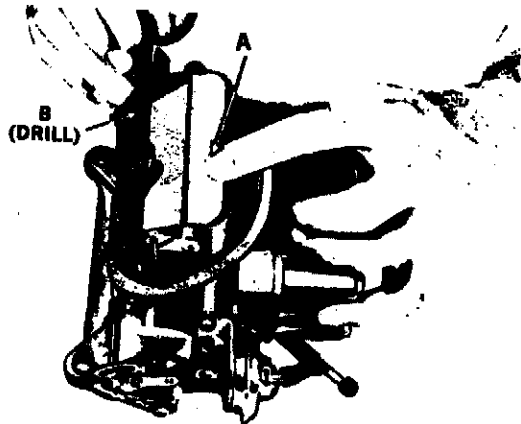

FIG. 5A
**UNLOADER ADJUSTMENT** (See Fig. 5A)